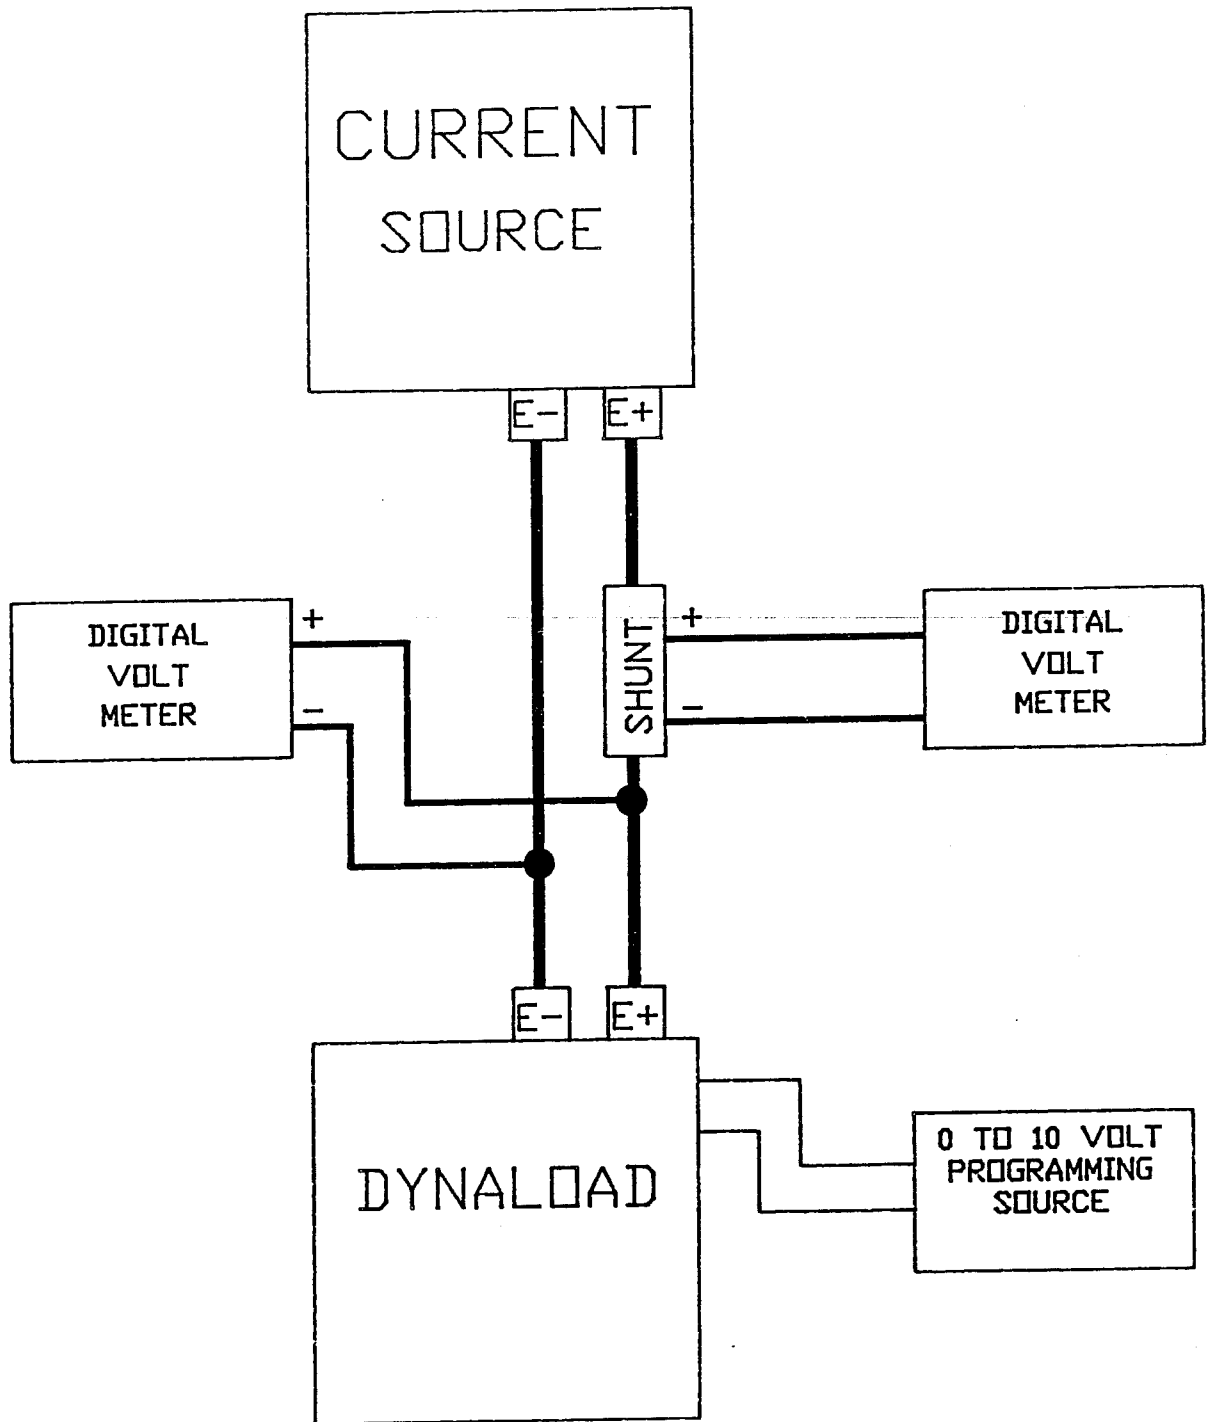

FIGURE 1. CALIBRATION SETUP
4. CALIBRATION PROCEDURES (Refer to FIG. 1)